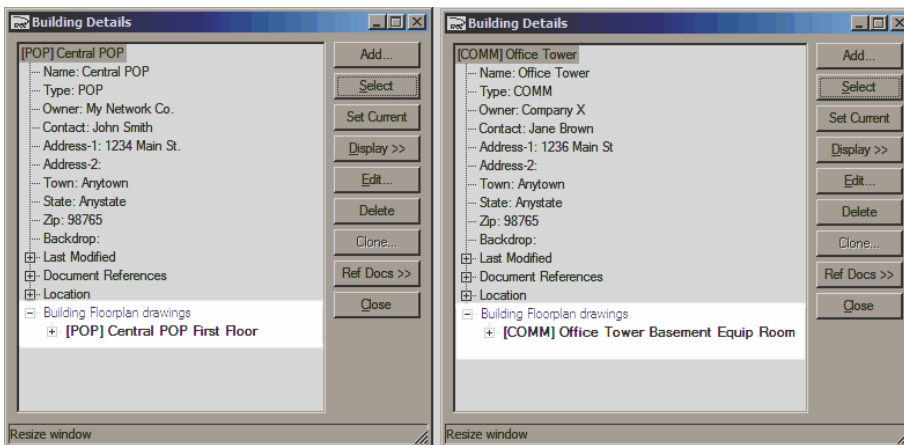

Figure 219 – Floors added to **Central POP** (left) and **Office Tower** (right)
4. Expand the **Building Floorplan drawings** branch of the tree view in each of the **Building Details** panels. The new floors should be visible, as shown highlighted in Figure 219, below.